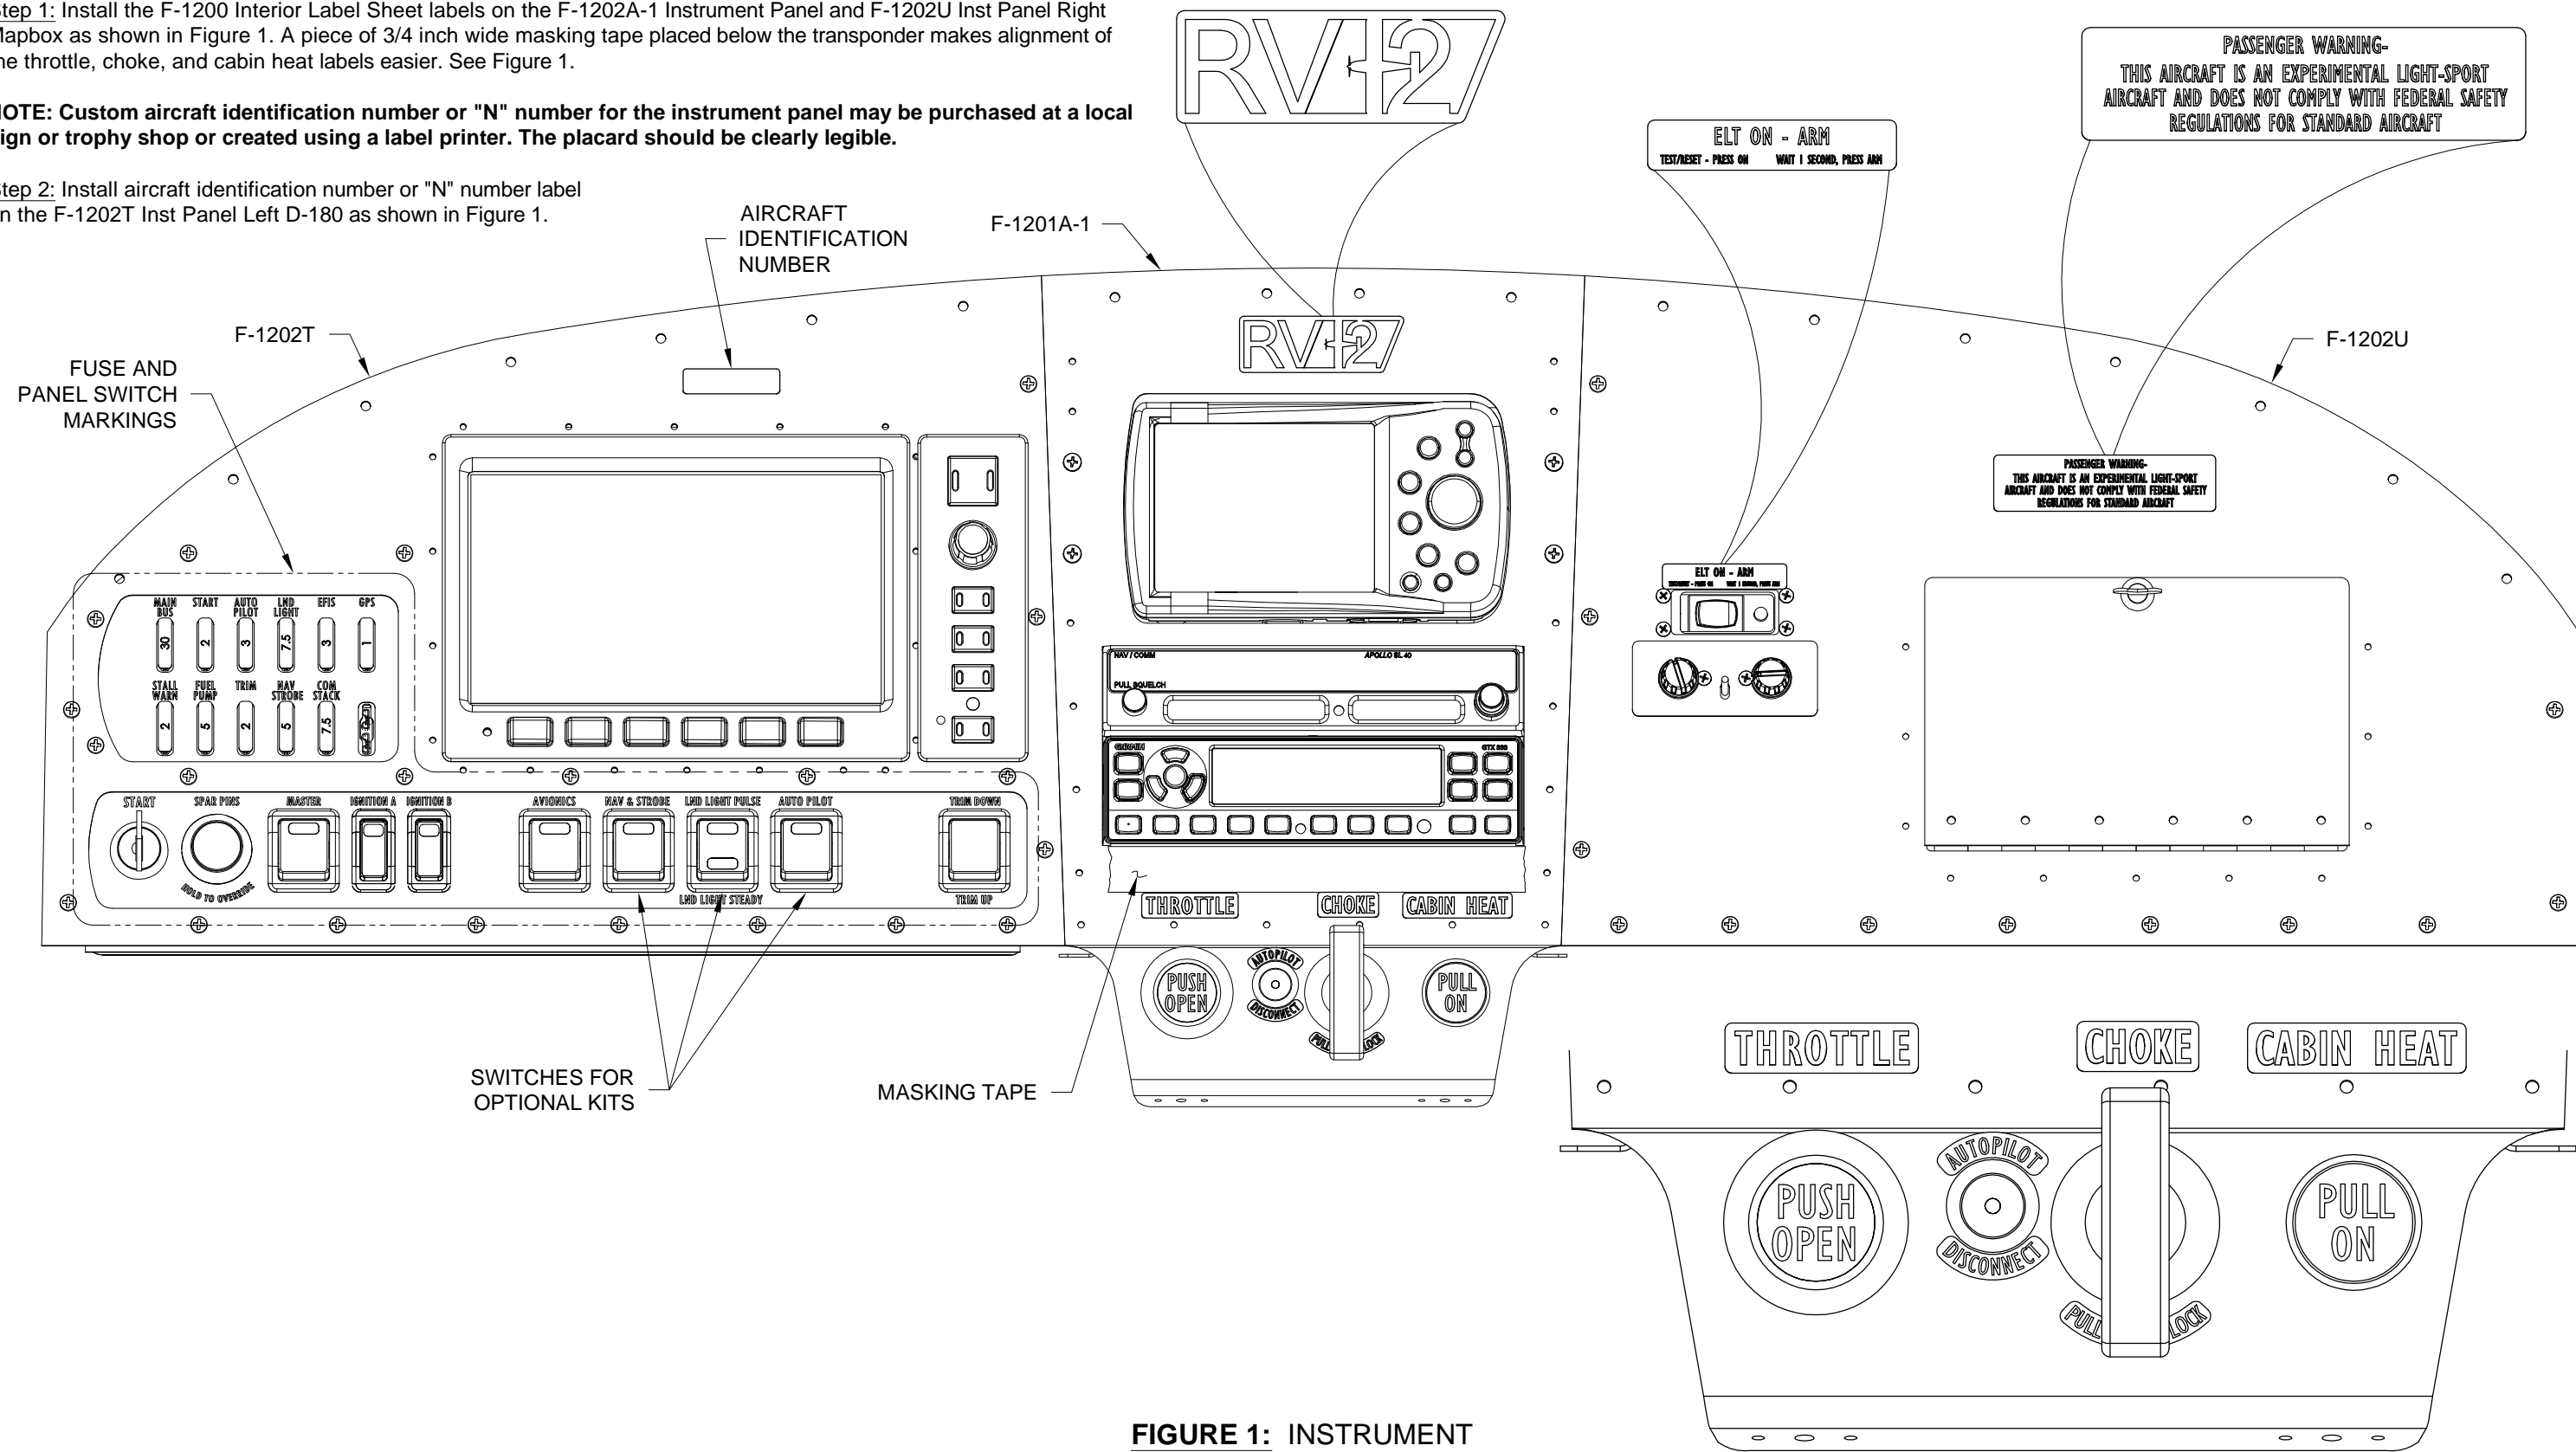

FIGURE 1: INSTRUMENT PANEL LABEL PLACEMENT
NOTE: Some labels are integrated into the parts themselves. Fuse labels, and instrument panel switch markings are integrated as shown in Figure 1. If not installing the corresponding option for the switches shown in Figure 1, the switches must be labeled as inoperable.
Step 1: Install the F-1200 Interior Label Sheet labels on the F-1202A-1 Instrument Panel and F-1202U Inst Panel Right Mapbox as shown in Figure 1. A piece of 3/4 inch wide masking tape placed below the transponder makes alignment of the throttle, choke, and cabin heat labels easier. See Figure 1.
Step 2: Install aircraft identification number or "N" number label on the F-1202T Inst Panel Left D-180 as shown in Figure 1.